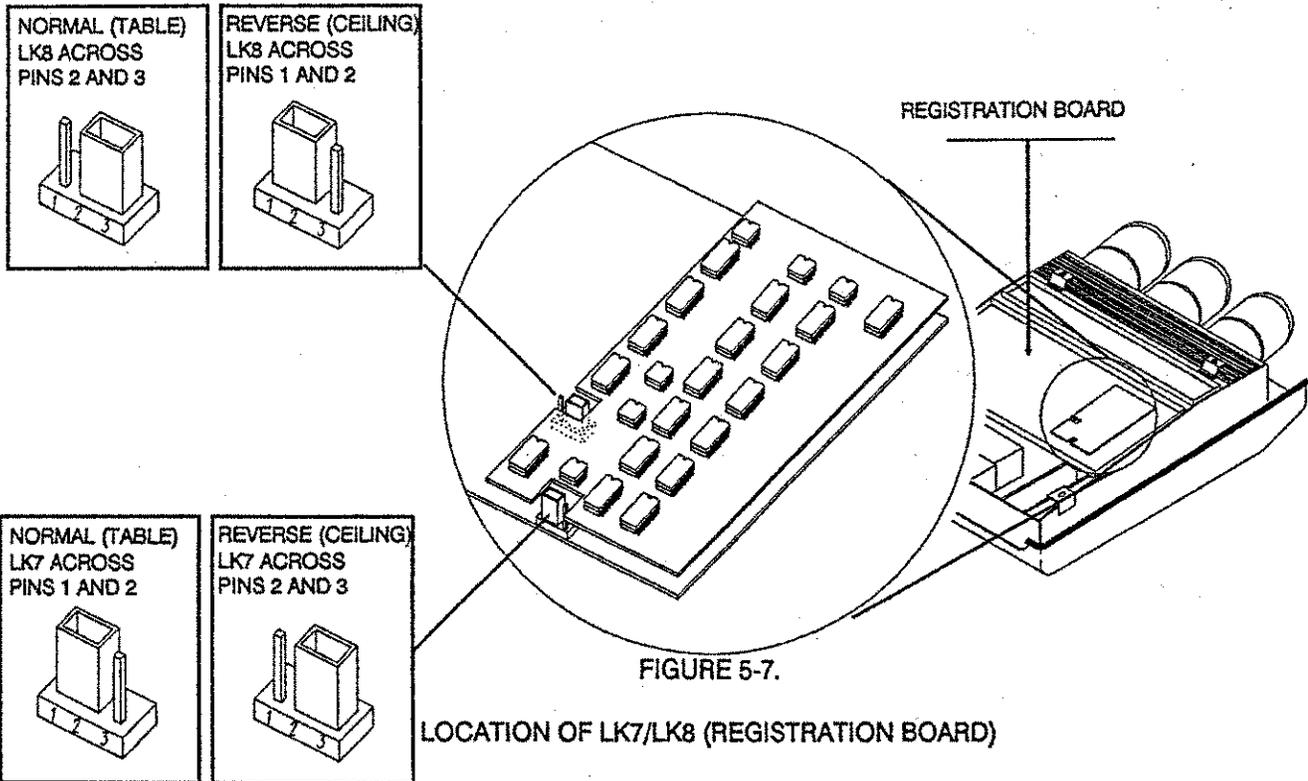

FIGURE 5-7.
- STEP 1. Remove the top cover. It is held on by four (4) 1/4 turn fasteners on the top of the system near the front and rear. Refer to figure 5-7.
- STEP 5. Position LK7 and LK8 (Registration Board, lower right hand corner as viewed from the rear) for the proper sweep configuration. Refer to figure 5-7.